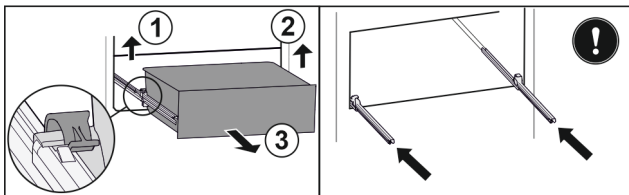

Fig. 127
- Lift left clamp and simultaneously pull drawer forwards on the left. Fig. 127 (1)
- Lift right clamp and simultaneously pull drawer forwards on the right. Fig. 127 (2)
- Remove drawer to the front. Fig. 127 (3)